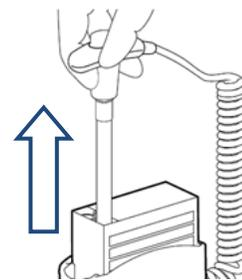

Figure 63: Applying Temp Probe Covers
- 3) Inset the Temp Probe end into a Probe Cover within the box (Refer to Figure 63).
- 4) Withdraw the Temp Probe and load a Temp Probe cover onto the Temp Probe by holding the Temp Probe collar with the thumb and forefingers, being careful not to hold or press the gray ejection button. Insert the Temp Probe into a cover until you hear a click (Refer to Figure 63).